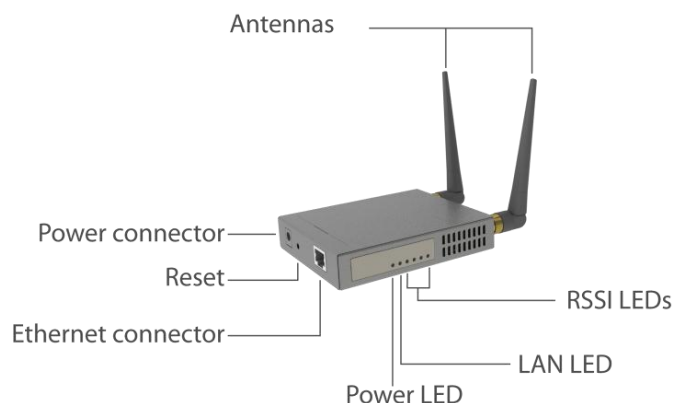

Figure 2 – APC 2Mi Overview
The APC 2Mi has 6 LEDs located on the side panel: power, LAN and 4 RSSI LEDs (refer at the *Figure 2 – APC 2Mi Overview* for details). The various states of the LEDs indicate different connection operations as follows:
- **Reset button** (refer at the *Figure 2 – APC 2Mi Overview*). Press and hold the **Reset** button for 1 second to reboot the controller; press and hold the **Reset** button for more than 5 seconds to set the controller to factory defaults.